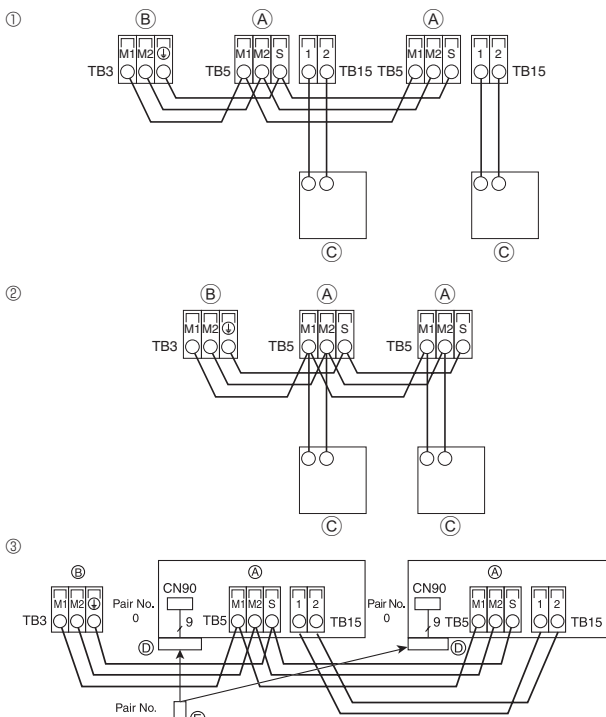

Fig. 6-3
6.4. Connecting remote controller, indoor and outdoor transmission cables (Fig. 6-3)
① MA Remote controller
② M-NET Remote controller
③ Wireless remote controller (When installing wireless signal receiver)